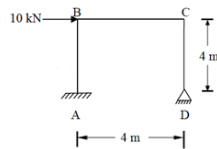

Figure 12
- (b) Analyse the portal frame shown in Figure 12 using moment distribution method and draw the bending moment diagram and deflected shape of the frame. Take EI constant for all the members. [7M]